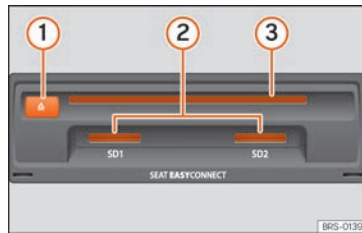

Fig. 194 Slots for data storage devices in the glove compartment.
- Insert a CD or DVD into the slot **»» Fig. 194 ③** with the printed side facing upwards, until the equipment inserts it automatically.
Insert the compatible memory card, with the cut corner first and the contacts facing down, into slot » **Fig. 194** (2), until it clicks into place.